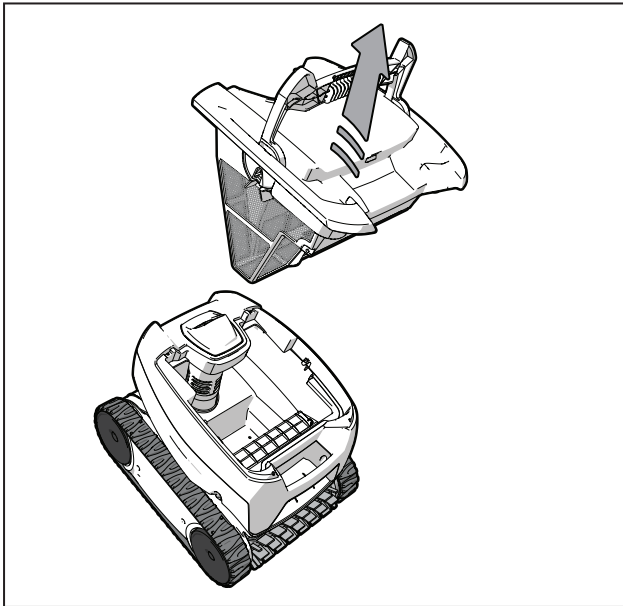

Figure 8. Remove the Filter Canister
3. Grasp the handle and lift up to remove the filter canister (Figure 8).